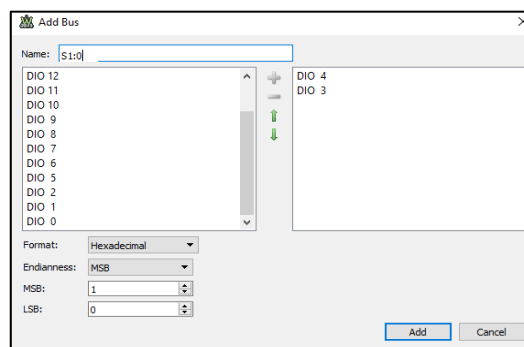
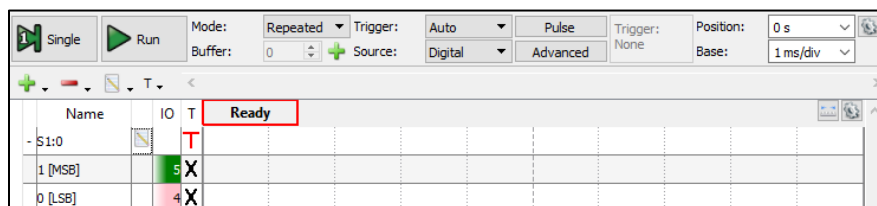

Figure 10: Setting up Bus
Figure 19: Default Bus
**Setting up a Bus (also called Signal Array):** Configure Digital I/O signal bus as seen in Figure 10 by selecting the green +, bus. Give your bus a name such as S2:0. Select DIO 3 by selecting it and pressing the green +. Do the same with DIO 4. You can rearrange the order of the signals by selecting the signal that is out of order and pressing the green arrow. You can select multiple signals at a time by selecting one signal and holding shift. Change the format to hexadecimal. Change Endianness to MSB. Press ok. You can change these settings at any time by pressing on properties.
**Setting up a Bus:** Configure Digital I/O signal bus as seen in Figure 10 by selecting the green +, bus. Give your bus a name such as S2:0. Select DIO 4 by selecting it and pressing the green +. Do the same with DIO 5. You can rearrange the order of the signals by selecting the signal that is out of order and pressing the green arrow. You can select multiple signals at a time by selecting one signal and holding ctrl. Change the format to hexadecimal. Change Endianness to MSB. You can also add an Enable (as a low or high enable) and Clock (with a rising or falling edge) to your bus. This will be explored in the next exercise. Press ok. Your bus should look like Figure 19. You can change these settings at any time by pressing on properties.